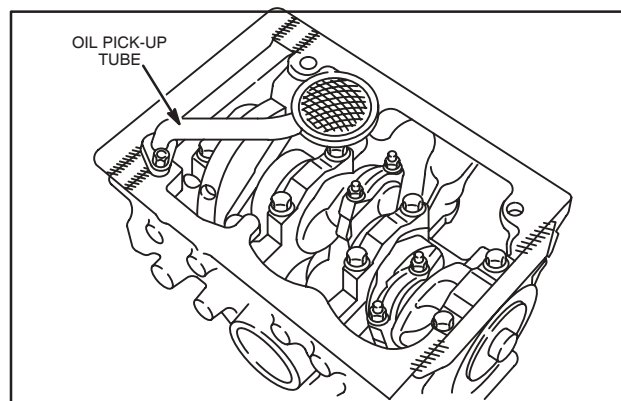

Fig. 2 – Removing Oil Pan
2. Remove the following parts, Fig. 2.